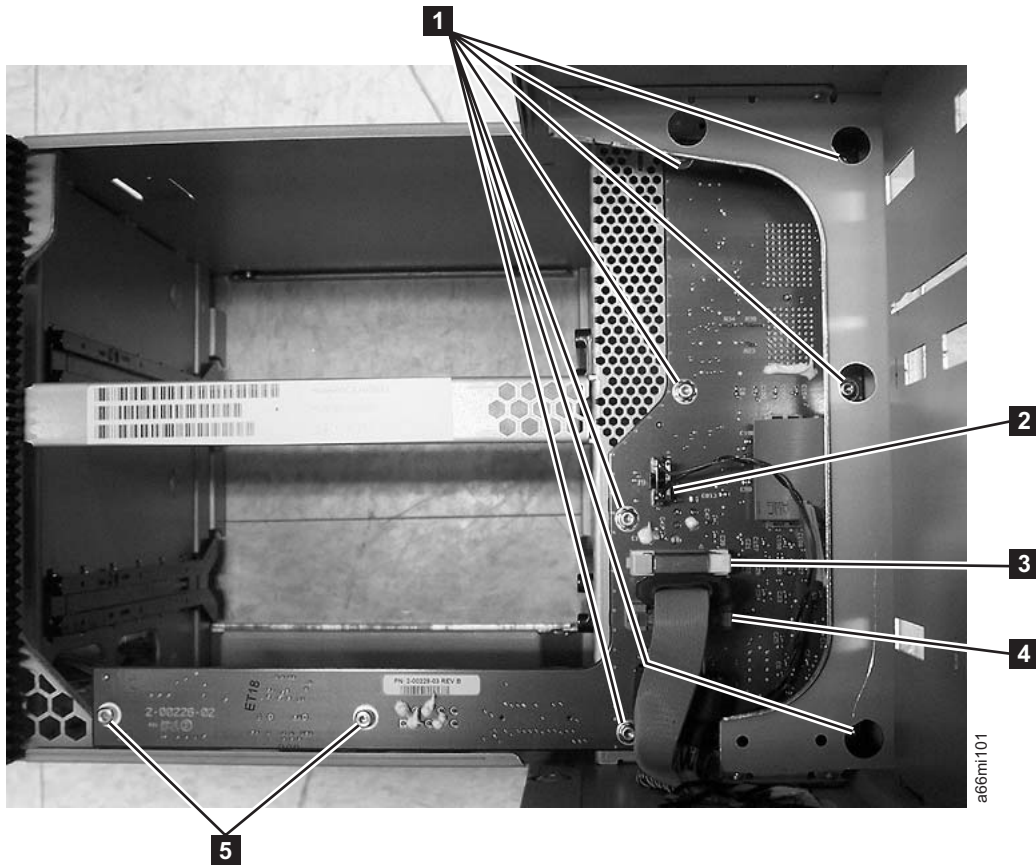

Figure 8-72. Backplane Connector Board (BCB), Front View
- c. Unplug cable connectors J9 (see **2** in Figure 8-72 on page 8-72), J16 (see **3** in Figure 8-72 on page 8-72), and J15 (see **4** in Figure 8-72 on page 8-72) from the BCB.
- a. Remove the 2 T8 Torx shoulder screws (**5** in Figure 8-72 on page 8-72) holding the lower part of the BCB.
- b. Remove the 7 T10 Torx screws (**1** in Figure 8-72 on page 8-72) holding the remainder of the BCB.
Tip: When installing the new BCB it is easier to start the board mounting screws (**1** and **5** in Figure 8-72 on page 8-72) if you first stand the control module enclosure on end.